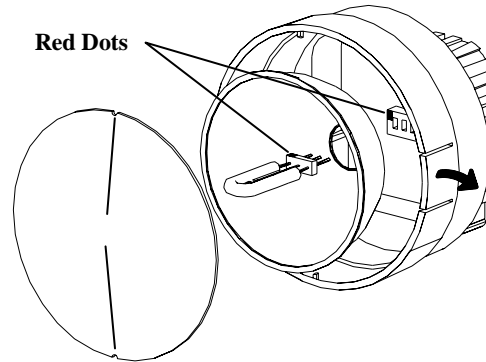

Figure 4. Lamp Replacement
- The lamps are polarized and must be put into the socket matching polarity. Using a lint free cloth, match up the red dot on the plug with the red dot on the socket and gently rock the lamp while pushing it into place (see Figure 4). Make sure the lamp is in straight and centered in the reflector hole.
- Reinstall the reflector and then position the front lens in place matching up the notches on the lens with the two small tabs on the housing to prevent lens rotation (see Figure 4). Push the tabs on the front rim outward and press the lens into place.